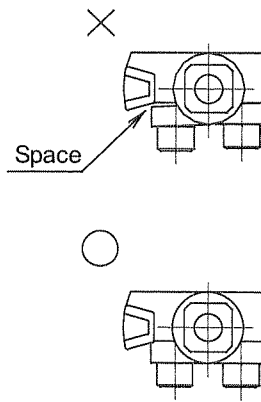

Figure 1
2. Insert the stopper lever 3 into the shaft of the body 1, and tighten them with the lever retainer 4 with the hexagon socket head cap screw 9. (Refer to Figures 1 and 2 for the cautions on mounting.)